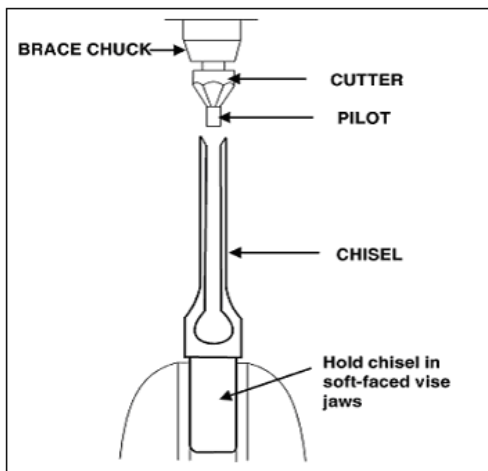

Fig 14
2. Sharpen the chisel with a mortise chisel cutter with the correct size pilot. (Pilot size will differ depending on the size of your chisel). Two or three turns of the cutter in a carpenter's brace chuck should be enough to sharpen the chisel, as shown in Fig. 14